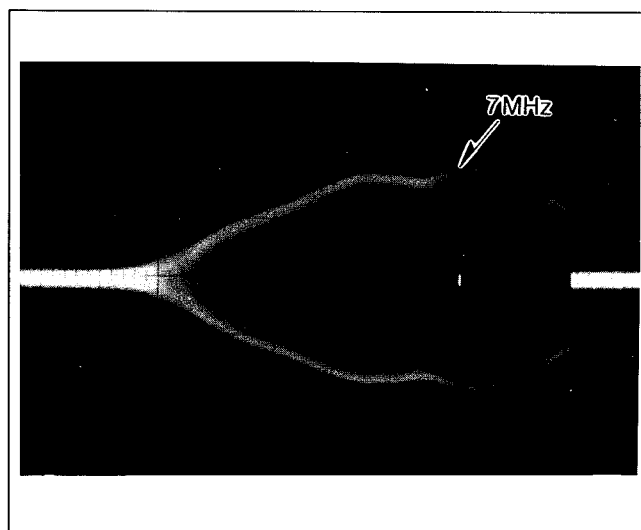

Fig. E18
5. Adjust VR3004 until the signal level at 7 MHz portion is maximum as shown in Fig. E18.